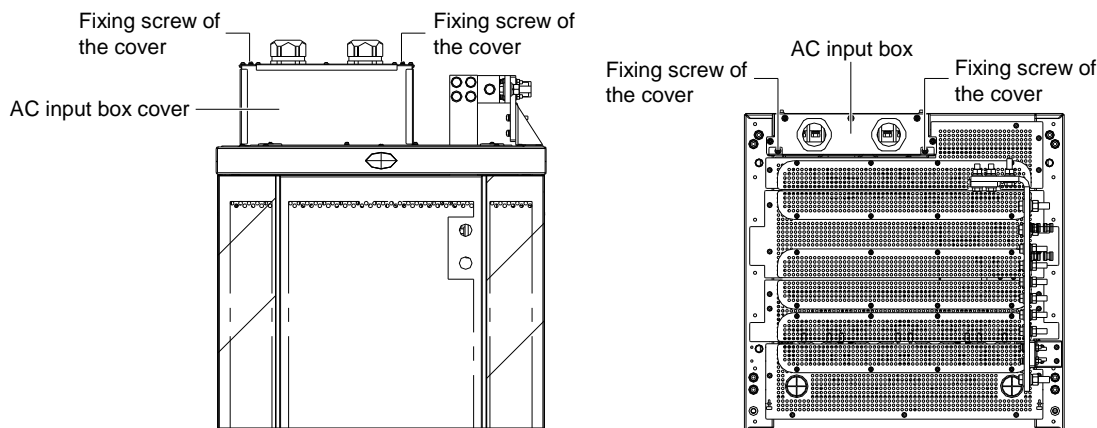

Figure 3-10 Removing the AC input box cover
- 1. Remove the fixing screws of the AC input box cover, and remove the cover, as shown in Figure 3-10.